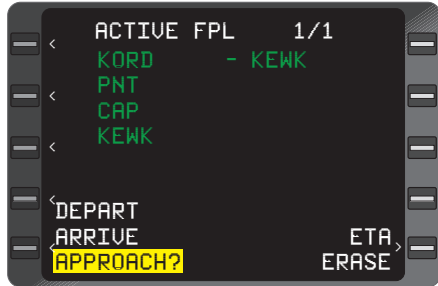

Figure 3-52
1. Line Select Key - DEPRESS to position cursor over **APPROACH?** field on the **ACTIVE FPL** page. (Figure 3-52)